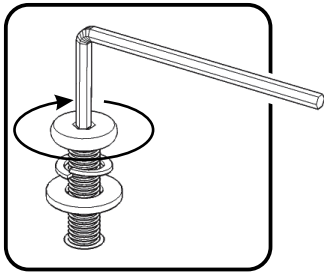

Figure 3
Attach unit to Side Panel (C) with Cam Locks, Flat Washers, Spring Washers and Head Cap Bolts, tightening bolts only halfway. (See Figure 3)